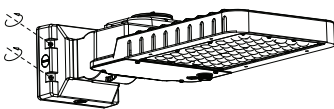

FIG. 16
1. Loosen the 4 M5*12 screws as **FIG. 16**, then take off the back plate of the bracket.